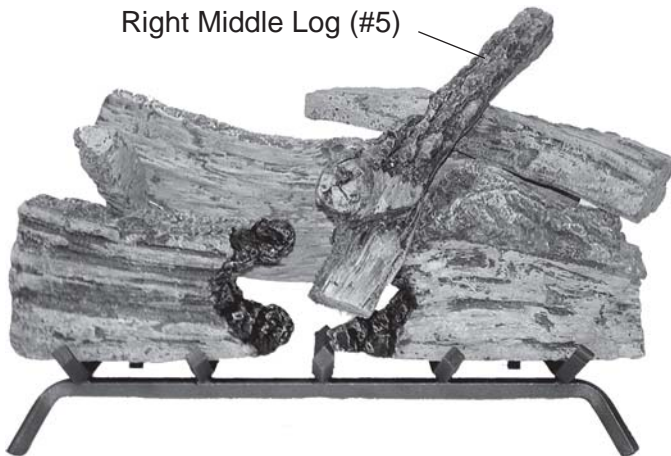

Figure 107 - Installing Right Middle Log (#5)
7. Place front of Right Middle Log #5 on top right of Log #1B. Rest back end of Log #5 on top right of Log #4. See *Figure 107*.